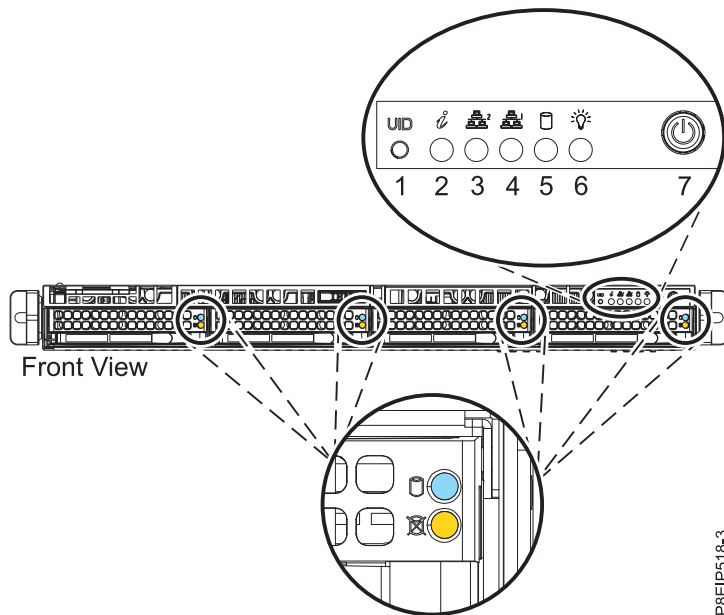

Figure 68. Power switch for 7063-CR1
2. Press the power button (7) shown in Figure 68. You may have to press the switch for 0.5 to 3 seconds.